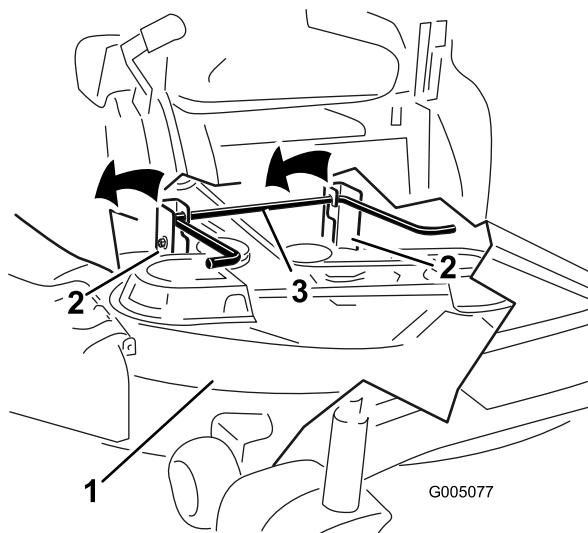

Figure 59
- 6. Lift the mower deck and hanger brackets clear of the rear lift rod and lower the mower carefully to the ground (Figure 59).
- Lift the rear of the mower deck and guide the hanger brackets over the rear lift rod (Figure 59).